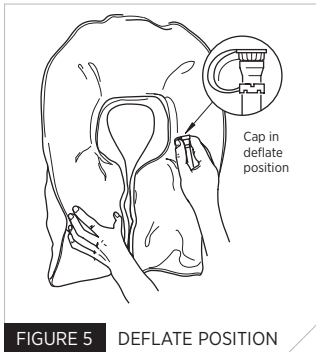

FIGURE 5 DEFLATE POSITION
1. To deflate the Inflatable PFD, reverse the oral-inflation tube dust cap and insert it into the valve. The dust cap will not lock in the deflate position so it is necessary to hold it in place (Fig. 5).